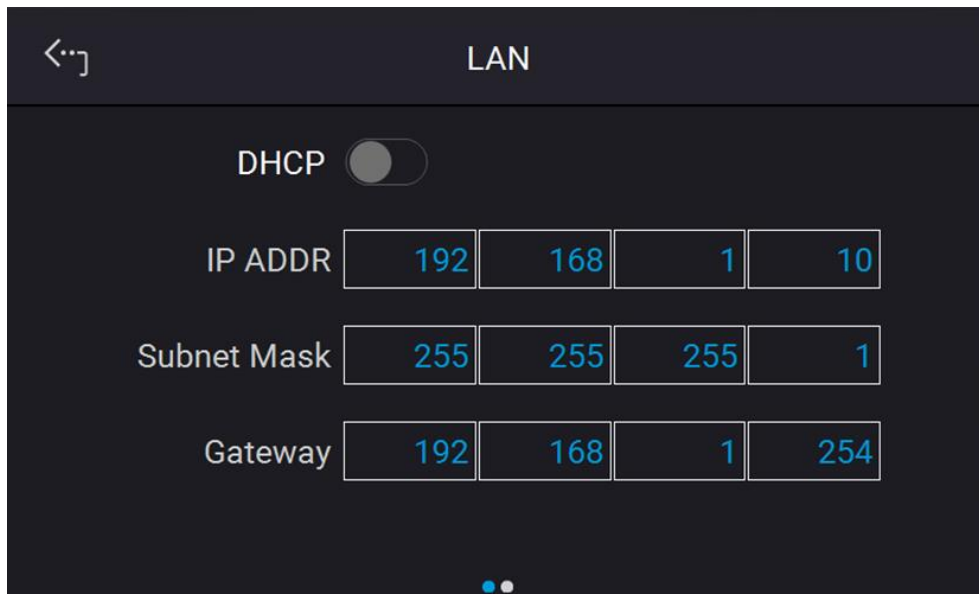
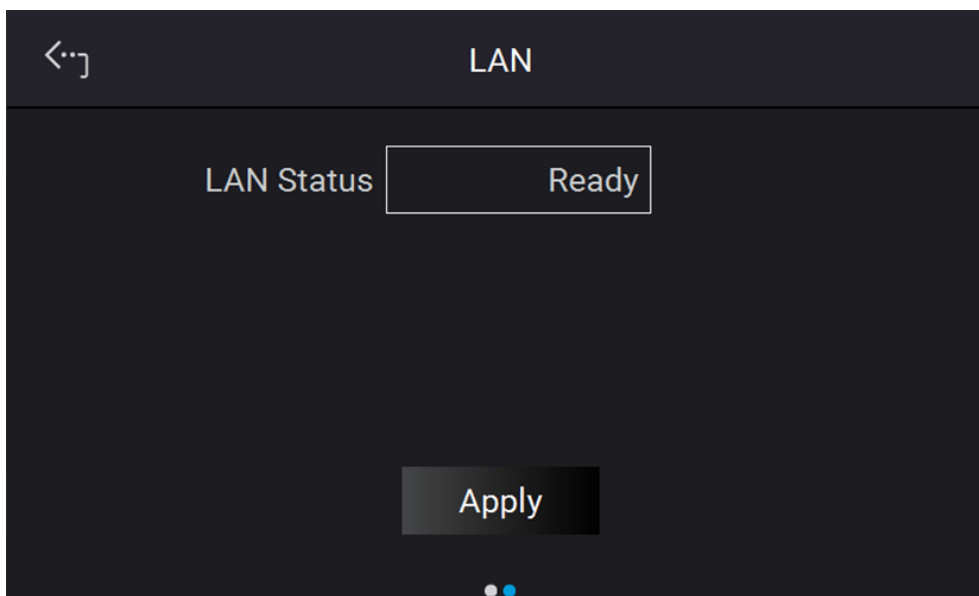

Figure 3-33
Figure 3-34
1. Tap "Menu", "Configuration" and "Interface:" to select LAN as shown in Figure 3-33 and Figure 3-34
The default of DHCP is ON. Swipe left to the second page as Figure 3-34 shows, the DC electronic load will automatically detect the external network address.